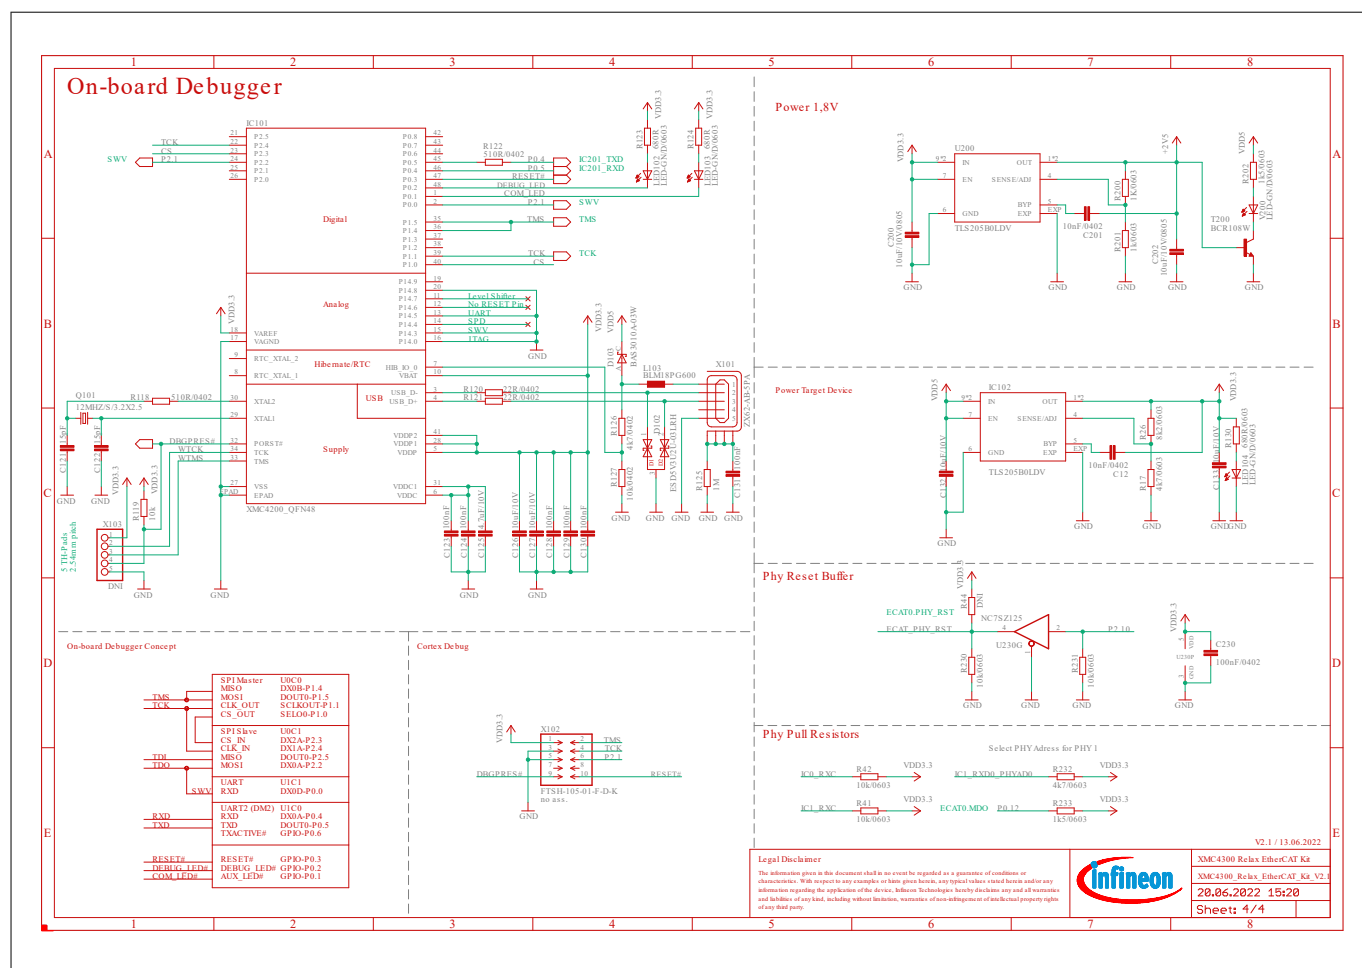

Figure 20 On-Board Debug Probe, Power Supply (See Revision 1.2)
- Figure 20 (See Revision 1.2)